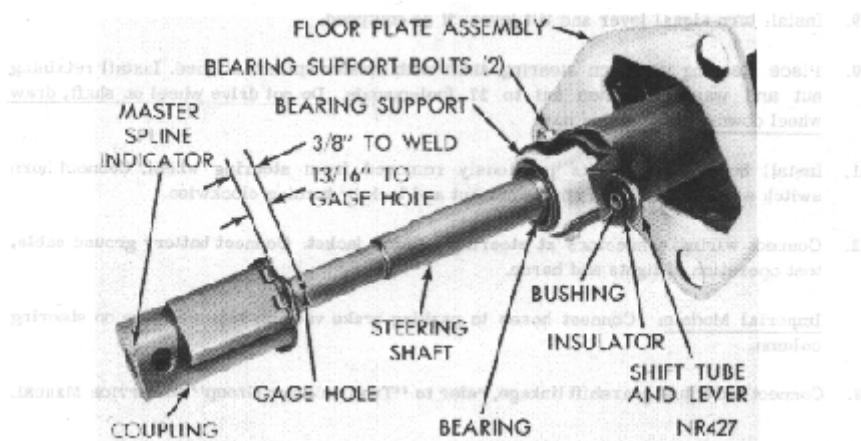

FIGURE 10: STEERING COLUMN COUPLING ALIGNMENT
4. Center steering shaft coupling at midpoint of its travel. This is accomplished by moving column and bracket assembly fore and aft in the instrument panel support so dimension between top of coupling and center of gauge hole is 13/16 inch (Figure 10). Tighten the two upper bracket nuts to 110 inch-pounds. Valiant and Barracuda models with power steering have no gauge hole in the steering shaft. Measure from top of coupling to weld on steering shaft. Adjust to 3/8 inch.